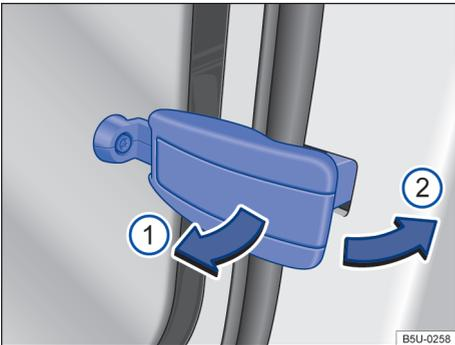

Fig. 54 Close the rear vent window.
- Pull the detent lever → Fig. 54 ① inwards, in the direction of the arrow.
- Press the detent lever → Fig. 54 ② backwards, in the direction of the arrow, until it is locked in place and the window is closed.